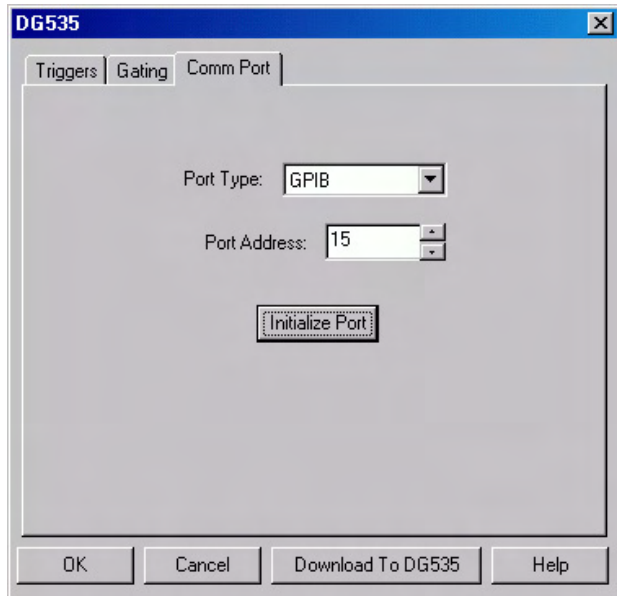

Figure 183. DG535 Comm Port tab page
5. Click on the **Comm Port** tab (Figure 183).